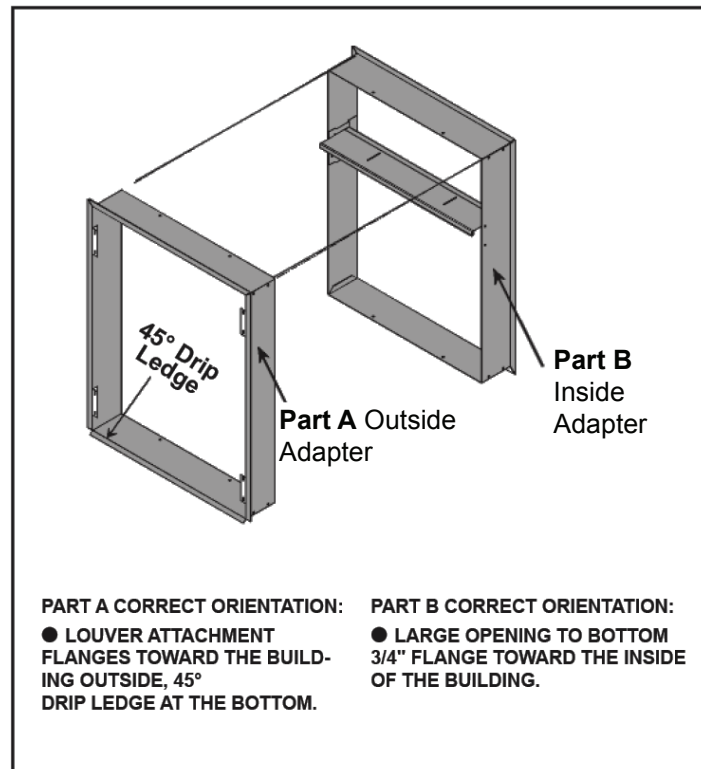

Figure 1
- Make a second cut 8" from the left corner. The gasket should peel away from the Adapter leaving a clean mounting surface. (See Figure 1)